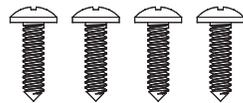

Figure 6
5. Secure the drawer with the 4 screws. See Figure 6.